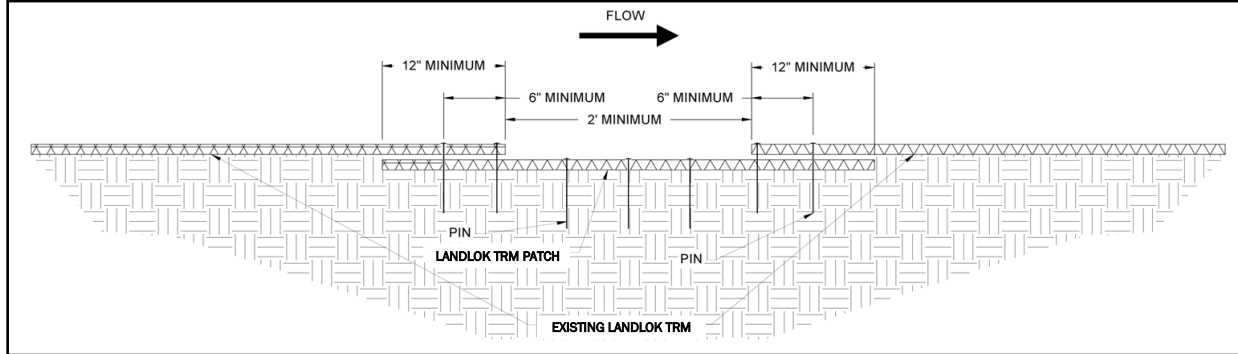
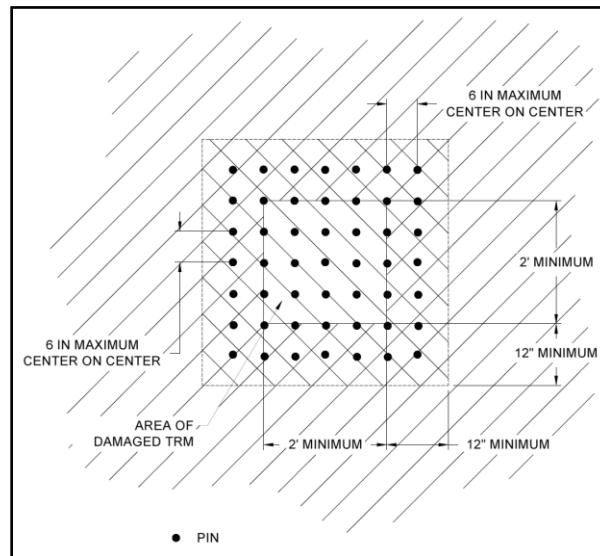

Figure 14: LANDLOK Patch Cross Section
Figure 15: LANDLOK Patch Plan View
- A. *Acceptable (A)* - The rated area is in satisfactory, acceptable condition, and will function as designed and intended during the rain event. LANDLOK has no exposed edges, is installed tightly by maintaining direct contact to the slope surface with no rilling beneath, and has over 90% vegetation cover. There is no noticeable damage present.
- B. *Minimally Acceptable (M)* - The rated area has a minor deficiency that needs to be corrected. The minor deficiency will not seriously impair the functioning of the area during the next rain event; however, the overall reliability of the project will be lowered because of the minor deficiency. LANDLOK has 75% vegetation cover with un-vegetated patches as large as one square yard. Edges of LANDLOK are exposed with noticeable damage. Minimal erosion has occurred underneath LANDLOK.
- C. *Unacceptable (U)* - The rated area is unsatisfactory. The deficiency is so serious that the area will not adequately function in the next rain event. LANDLOK has been physically torn, ripped, or lifted from the slope surface. Less than 75% vegetation cover is present with un-vegetated patches being greater than 1 square yard, and there is evidence that erosion is occurring beneath LANDLOK.
3. To repair LANDLOK, cut out and remove damaged areas in a square configuration a minimum size of 2 ft by 2 ft. Remove all vegetation and debris atop of LANDLOK. Loosen the top 1 to 2 in of soil in the patch area then seed. The subgrade of area to be patched shall be prepared to be smooth and uniform and transition smoothly into the in-situ area. Cut a square LANDLOK patch a minimum of 12 in greater than the damaged area for all four sides of the patch. Overlap the patch area in all directions a minimum of 12 in. The patch overlaps shall be tucked under the existing damaged LANDLOK material (Figure 14 and Figure 15)